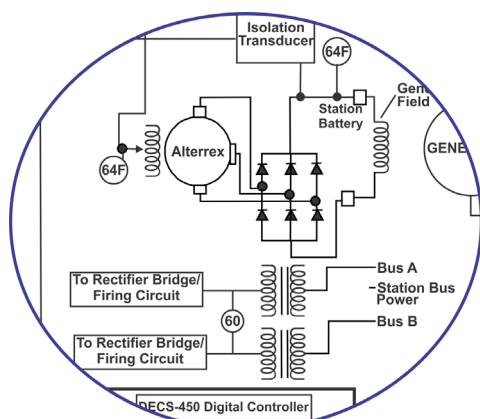

Figure 5: Block Diagram using two PPTs, one connected to each Station Power Source
In some cases, rather than using a transfer switch between the two (2) station power sources, two (2) power transformers are utilized with each connected to a rectifier bridge and firing circuit. While both transformers are energized, only one rectifier bridge and firing circuit is enabled. A 60 balance function is used to monitor the secondary power transformer's voltage. If the primary voltage source is lost, the 60 voltage balance function immediately enables the redundant bridge rectifier with its backup voltage source. See Figure 5.